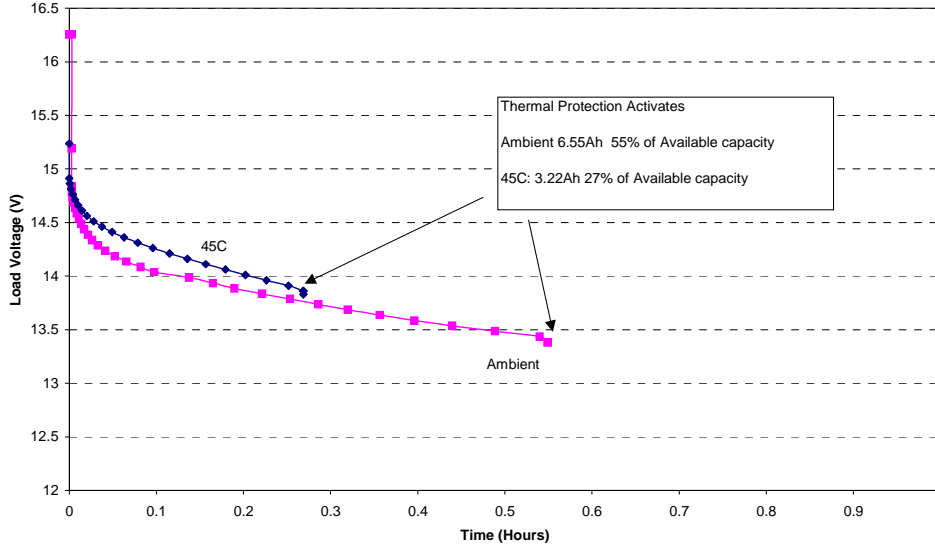

FIGURE 1
- 7.4. **NOTE:** The continuous use of the battery at or near max discharge capability, especially at elevated temperatures, will cause reset-able internal thermal protection to activate. See Figure 1.